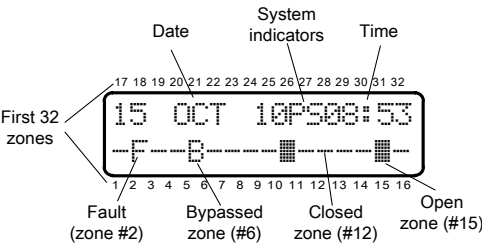

Figure 1. Fast zone mode with 16 zones
- Each sign appears next to the related zone number, which is printed above & below the keypad screen. See Figure 1.